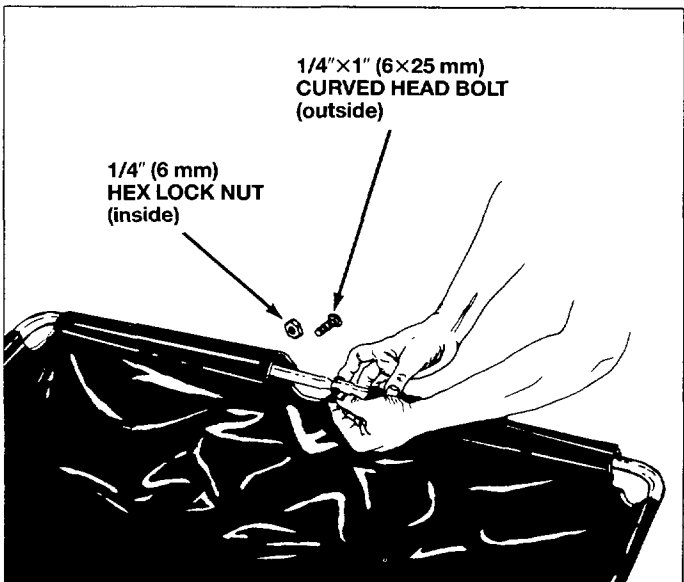

Fig. 15
4. Secure the upper hopper tubes with 1/4" x 1" (6x25 mm) curved head bolt and hex lock nut. See figure 15.